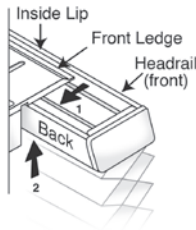

Figure 2
2. Tilt and slip the inside lip of the headrail over the installation brackets' front ledges as shown (Fig. 2).